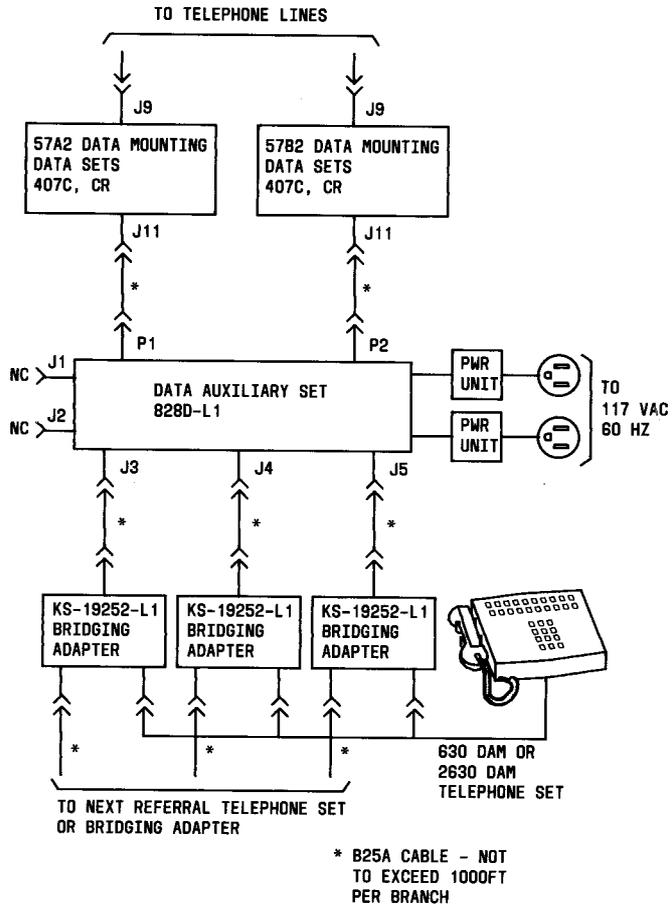

Fig. 7—407C or CR Data Station Arrangement Using 630DAM or 2630DAM Referral Telephone Set
4.08 Installation Using DS 407C or CR With 630DAM or 2630DAM Referral Telephone Set(s): Interconnect to the data station as shown in Fig. 7 using B25A cable. Mount the KS-19252-L1 bridging adapters and interconnect with the DAS using B25A cable. Connect the referral telephone set(s) to the bridging adapters.